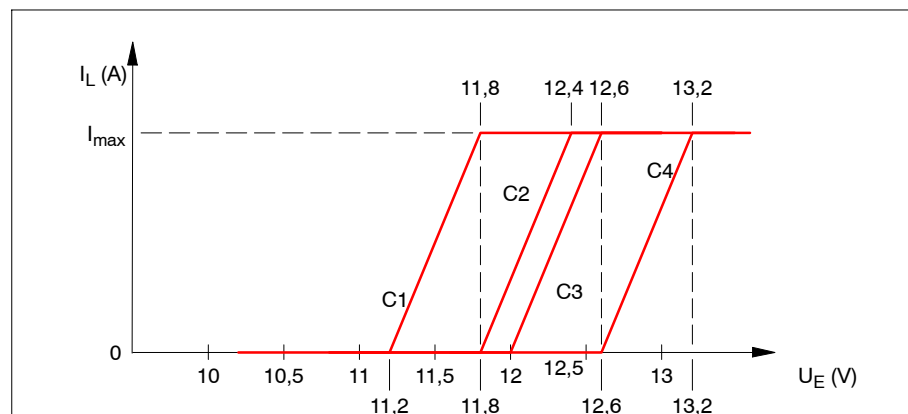

Fig. 12 Charge current reduction characteristic C1 to C4 (values are example and may differ depending on vehicle manufacturer)
- One of the LEDs in the left-hand column lights, e.g. the second LED from the top. This means that characteristic C2 is set (refer to Figure 12 for more information on characteristics).